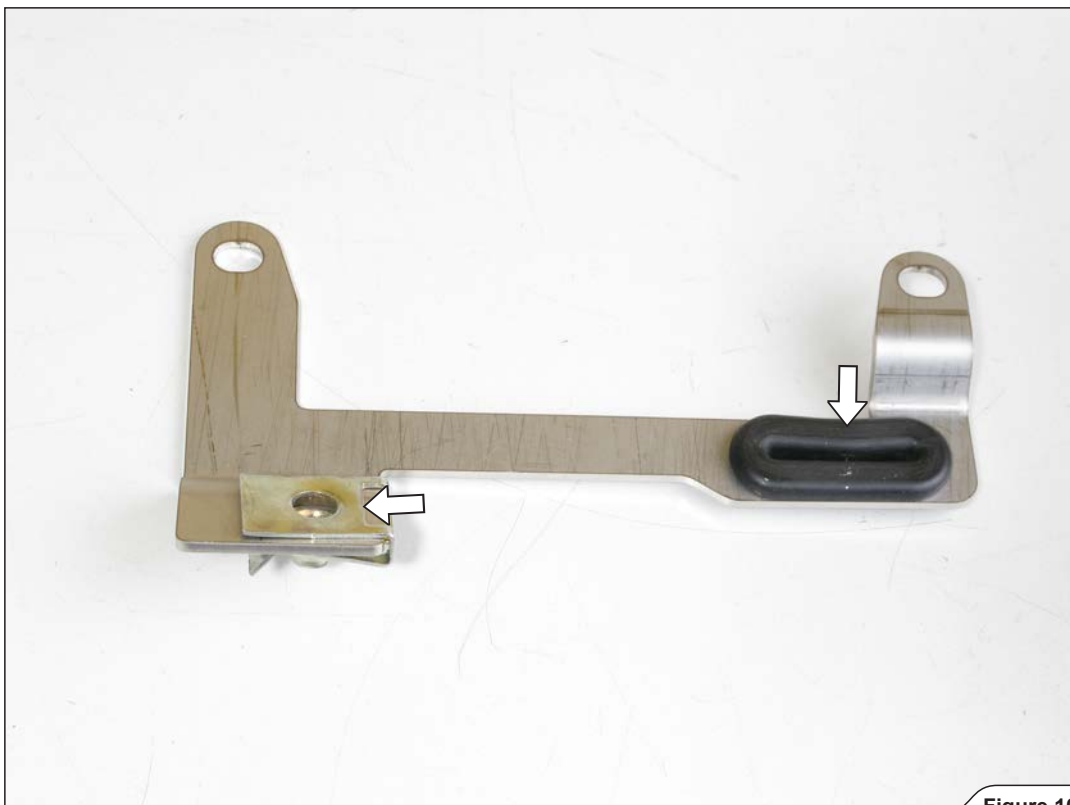

Figure 10
3. **For Z1000 model only:** assemble stock rubber damper and press-on nut from Akrapovič installation kit, onto the additional bracket (**Figure 10**).